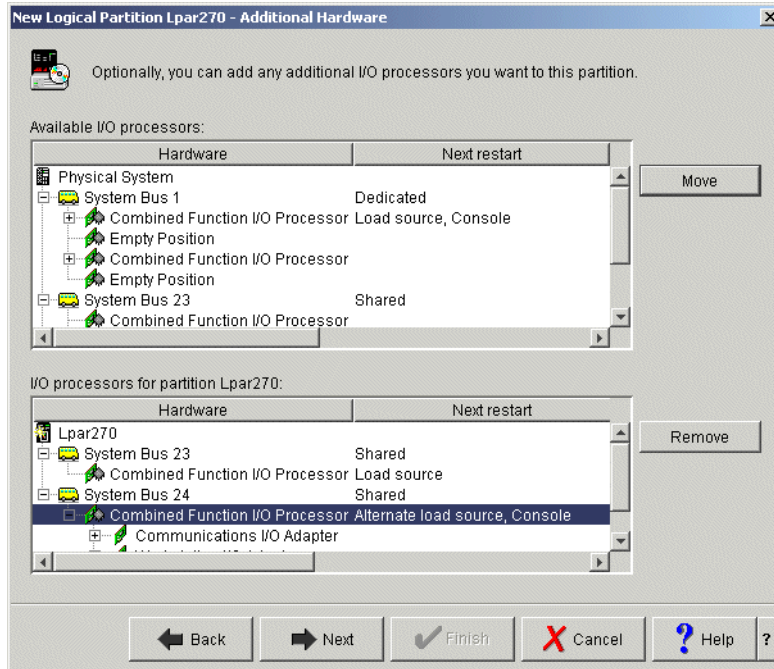

Figure 4-24 New Logical Partition - Additional Hardware window
20. You then see the New Logical Partition - Additional Hardware window as shown in Figure 4-24.